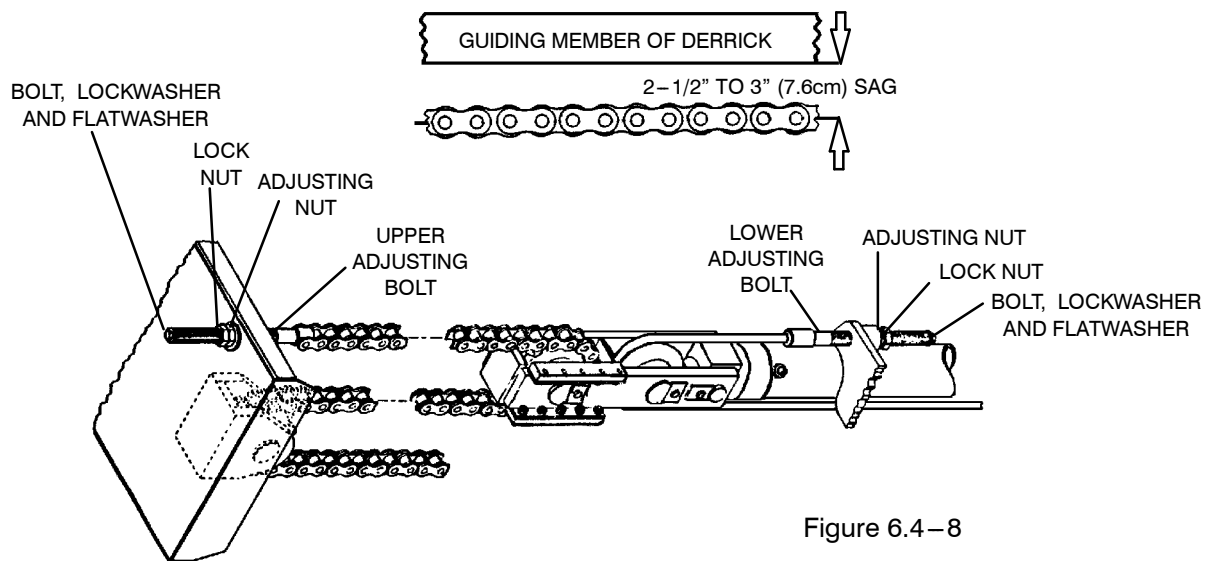

Figure 6.4-8
1. With the tower down and the rotary head at the top of the tower but not touching the stops, measure the top feed chain sag from under the front tower member to the center of the feed chain (see Figure 6.4-8). The sag should not be more than three inches (7.6 cm).